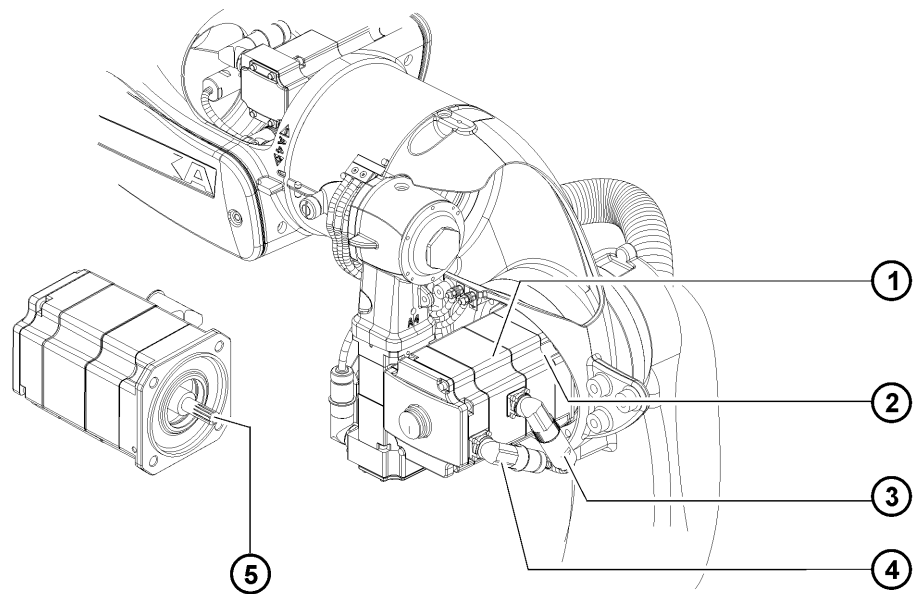

Fig. 11-6: Installing motor A3
2. Clean tothing (>>> Fig. 11-6) of motor and gear unit before installation and apply a thin but continuous coat of Microlube GL 261 grease.